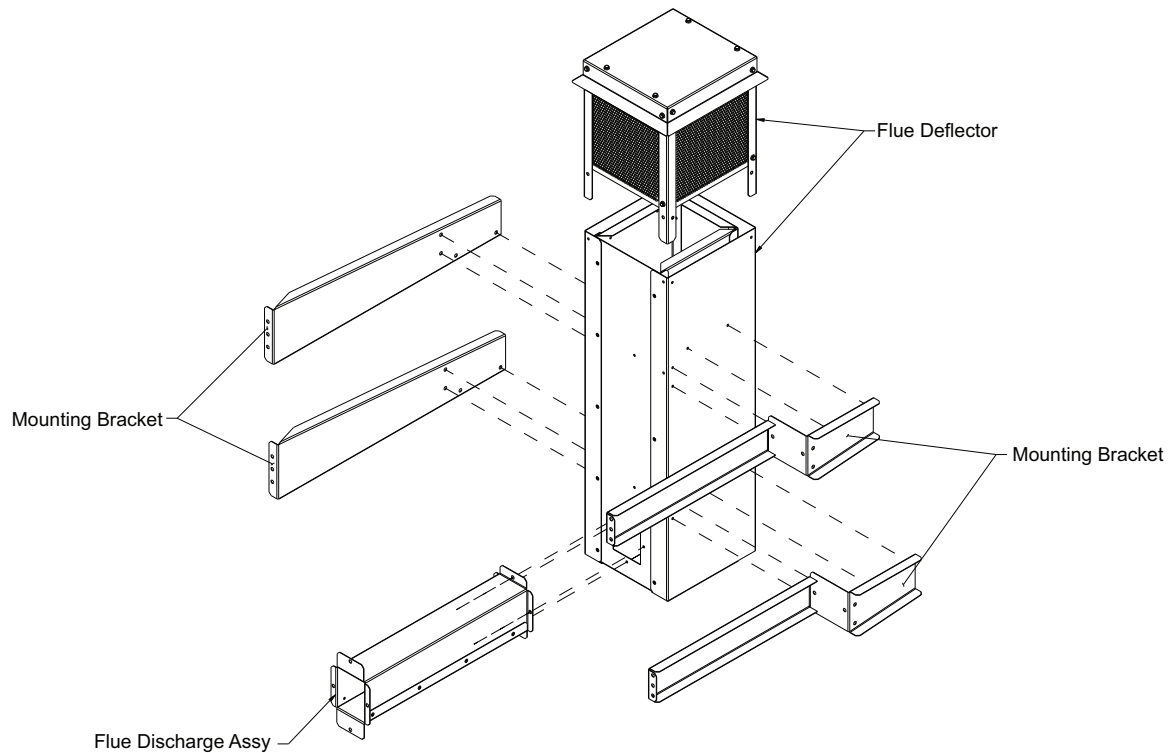

Fig. 1 — Flue Discharge Deflector Assembly (Low Heat)
2. The chimney for 48V comes pre-assembled for low and high heat furnace. See Fig. 1 and 2.